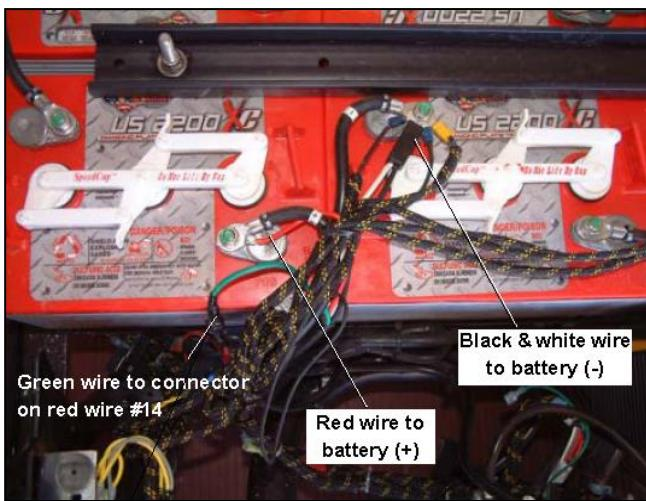

Figure 8-9
2. Disconnect 3 wires (Red, Green and Black & White together) in charger output lead from battery B-, battery B+ and wire 14 (Figure 8-9). Unplug power inlet cable from charger pigtail.
3. Install charger output electrical leads as follows; black and white to battery B-, red wire to battery B+, green wire to red wire from interlock harness. See Figure 8-9. Plug in cord from power inlet to charger pigtail. Tape the two plugs together so they cannot accidentally separate.